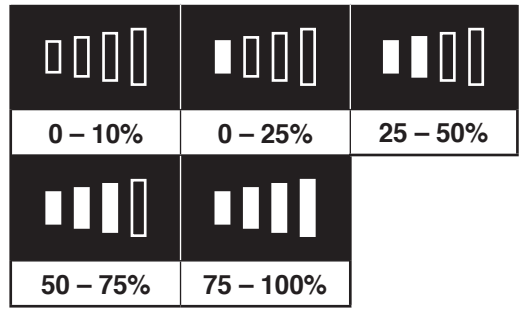

FIG. 7
6.7 BATTERY PACK CHARGE STATUS – FIG.7